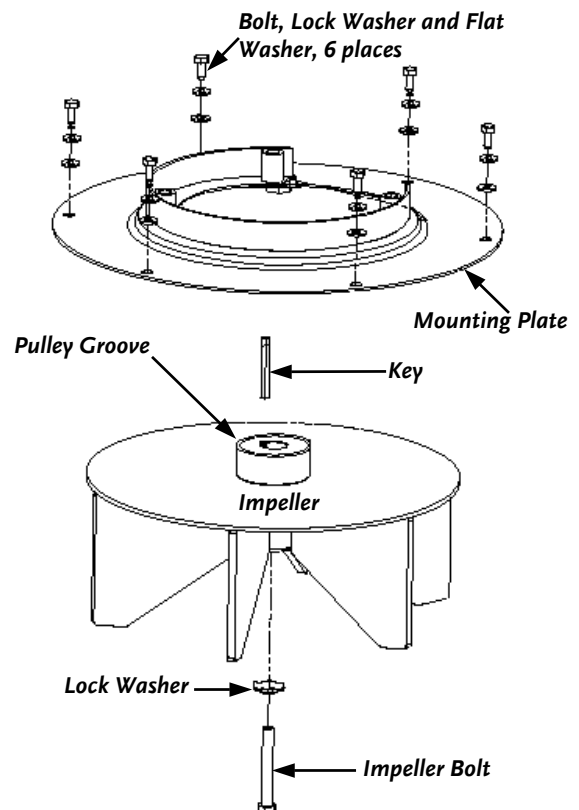

Figure 20
4. Using a 7/16" Socket with 6" Extension, remove the six (6) 1/4" Bolts, Lock Washers and Flat Washers (**Figure 20**) attaching the Engine Mounting Plate to the Impeller Housing.
6. Leaving the Engine attached to the Mounting Plate and using a 9/16" Socket, remove the Impeller Bolt and Lock Washer and then slide the Impeller off the Engine Crankshaft (**Figure 20**).
NOTE: Make sure that the Key stays in the Keyway in the Engine Crankshaft (**Figure 20** on page 33).
1. Apply a thin coat of Anti-Seize Compound to the Engine Crankshaft and reinstall the Impeller by aligning the Key in the Crankshaft with the Keyway in the Impeller (**Figure 20** on page 33).
5. Using a 7/16" Socket with 6" Extension, remove the six (6) 1/4" Bolts, Lock Washers and Flat Washers (**Figure 20** on page 33) attaching the Engine Mounting Plate to the Impeller Housing.
NOTE: Before placing the new Belt on the Transmission Pulley and before placing the Impeller back in the Impeller Housing, look between the Engine Mounting Plate and the Impeller to insure the Belt is in the Groove of the Impeller Pulley (**Figure 20** on page 33).